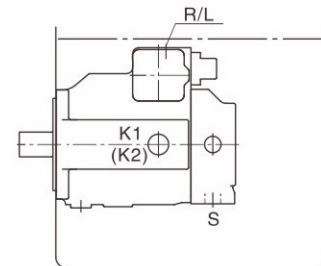

Figure 3
- When the minimum level in the tank is as same as or higher than the upper end of the drain port and port S can be open (see Figure 3)